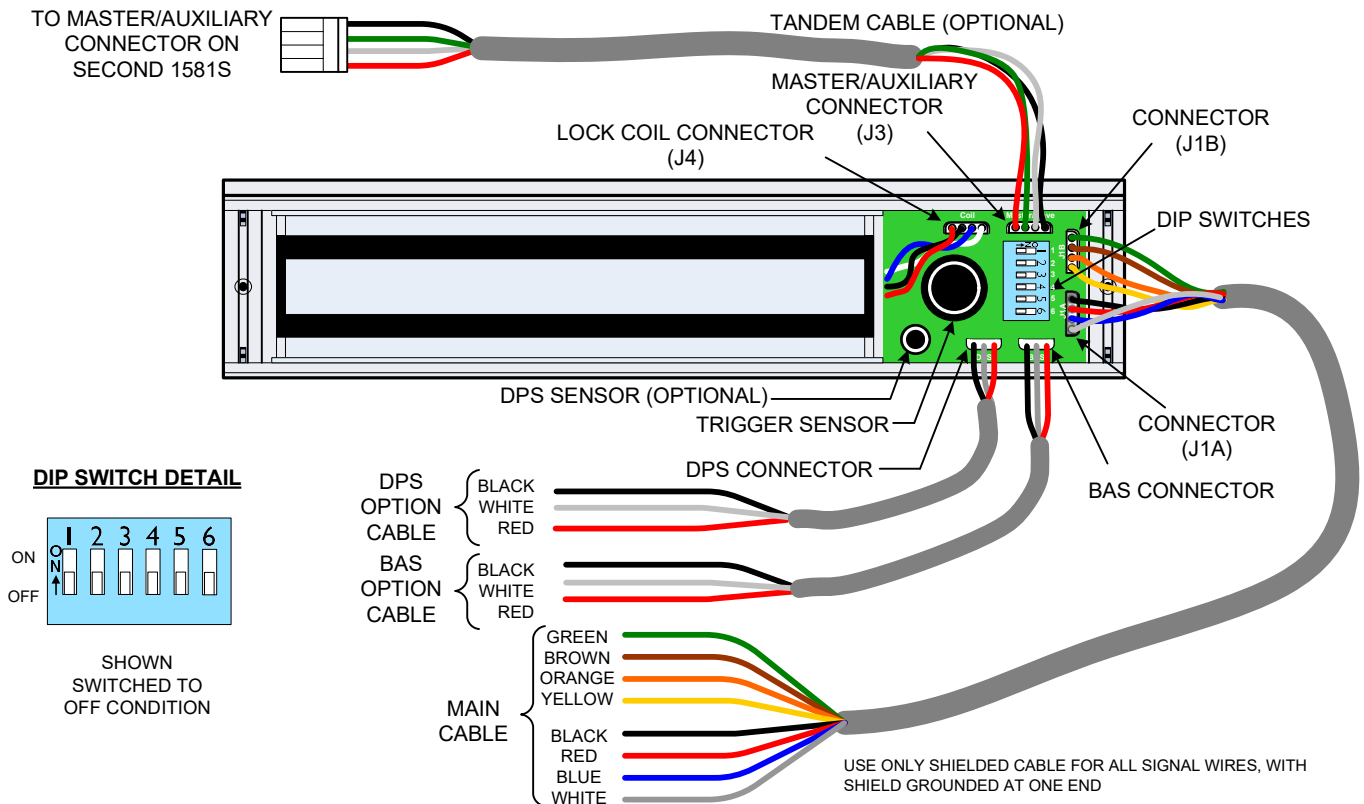

**Figure 1A
STEP 2. Install the mounting plate (filler plate and/or angle bracket if needed – see figures 1A, 1B & 1C) to header with only the two screws at the slotted hole locations at this time. Snug the screws down lightly (do not torque) so the mounting plate & lock can be repositioned later.